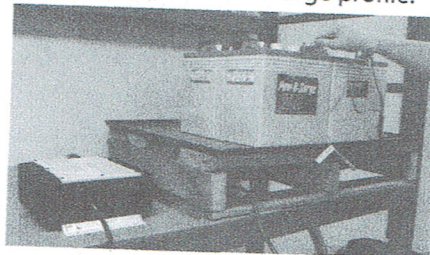

Figure 7: Touch the positive lead to the positive battery terminal for 3 seconds.
10. When the charger displays the desired charge profile, apply the positive lead to the positive battery terminal for 10 seconds. When the charge profile is locked, you will hear a click from the charger. See Figure 7 for how to apply the positive lead to the positive terminal.